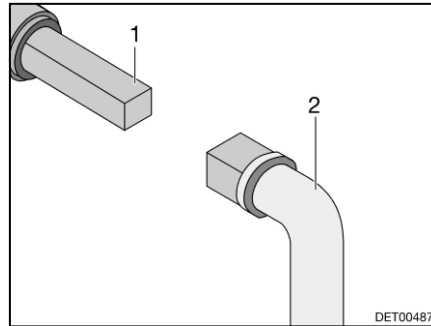

Fig. 92 Operation of the waste water tap
- Place key (Fig. 92,2) onto the square bolt (Fig. 92,1).